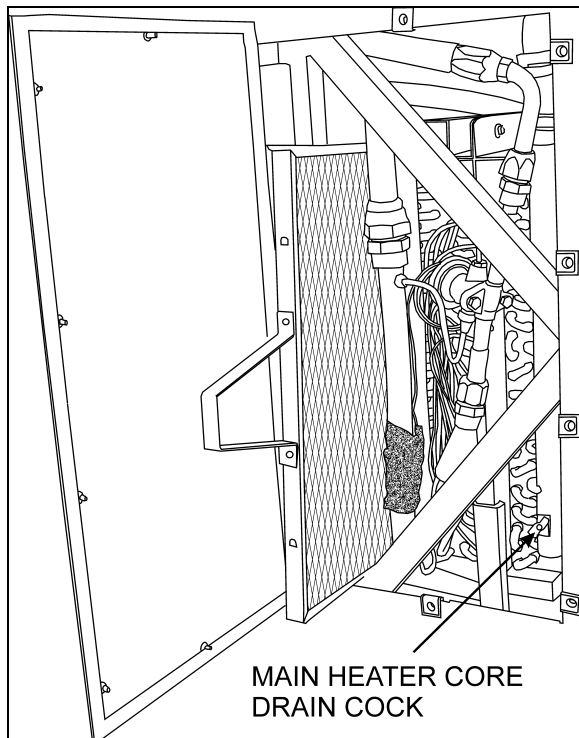

FIGURE 52: EVAPORATOR COMPARTMENT 22327
- Open drain cock in bottom of heater core, you can unfasten a hose connection on top of heater core (Fig.52) in order to allow air to enter while draining.